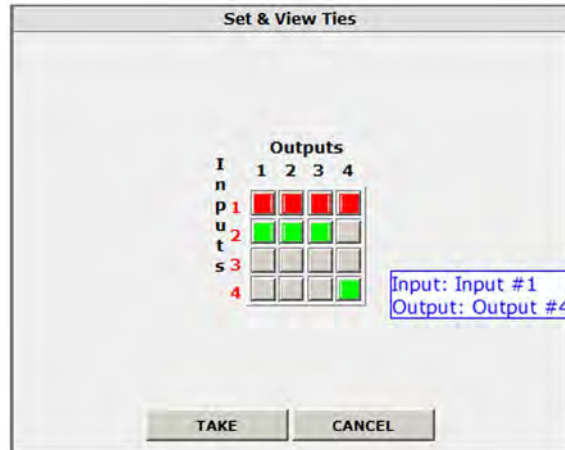

Figure 116. Pop-up Field Providing Formation About a Button Tie
- If you lose track of the input and output associated with a specific button, let the mouse rest over one of the tie buttons for a moment. A field pops up (as shown in figure 116 on the next page) that identifies the input and output for that button.